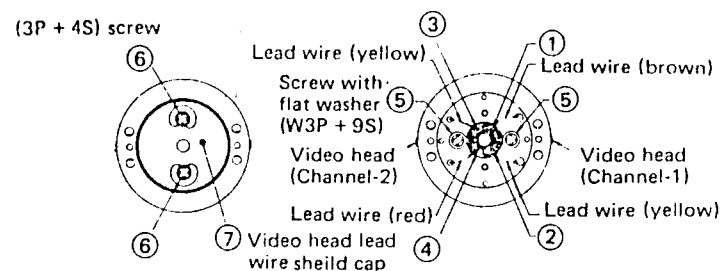

Figure 25.
- 5) The height of the audio/control head should be positioned with regard to the tape as shown in figure 25.
- 1) Fit a replacement drum as shown in figure 25, taking care to correctly position the respective leads.